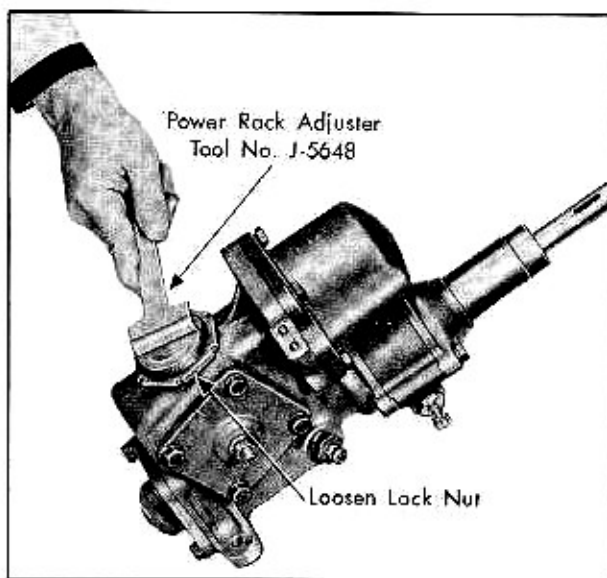

Fig. 7-8 Adjusting Power Rack
1. Using Special Tool, No. J-5648, tighten the power rack adjusting screw so that the over center pull through is $1/8$ to $1/4$ lb. greater than that obtained in the pitman shaft end play adjustment, Fig. 7-8 (Note 3b above). This should be measured at the rim of the wheel through an arc not exceeding 3° .